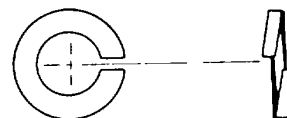

Figure 2-30. Split Lockwasher
b. *Lockwashers.* Use lockwashers, MS35338 (split type) or MS35335, MS35336, MS35790 (internal, external, or countersunk teeth type), as shown in figures 2-30 and 2-31, with plain nuts when self-locking or castellated-type nuts are not applicable. Lockwashers may be used to prevent loosening of threaded fasteners in airframe construction under the following conditions: